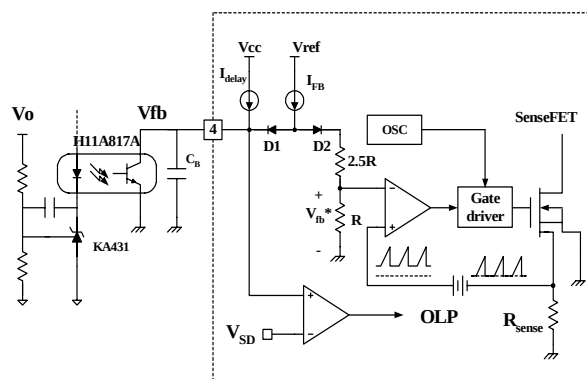

Figure 11. Pulse width modulation (PWM) circuit
3. Feedback Control : FSCQ1265RT employs current mode control, as shown in Figure 11. An opto-coupler (such as the H11A817A) and shunt regulator (such as the KA431) are typically used to implement the feedback network. Comparing the feedback voltage with the voltage across the R_{sense} resistor plus an offset voltage makes it possible to control the switching duty cycle. When the reference pin voltage of the KA431 exceeds the internal reference voltage of 2.5V, the H11A817A LED current increases, thus pulling down the feedback voltage and reducing the duty cycle. This event typically happens when the input voltage is increased or the output load is decreased.
3.1 Pulse-by-pulse current limit: Because current mode control is employed, the peak current through the Sense FET is limited by the inverting input of PWM comparator (V_{fb}*) as shown in Figure 11. The feedback current (I_{FB}) and internal resistors are designed so that the maximum cathode voltage of diode D2 is about 2.8V, which occurs when all I_{FB} flows through the internal resistors. Since D1 is blocked when the feedback voltage (V_{fb}) exceeds 2.8V, the maximum voltage of the cathode of D2 is clamped at this voltage, thus clamping V_{fb}*. Therefore, the peak value of the current through the Sense FET is limited.